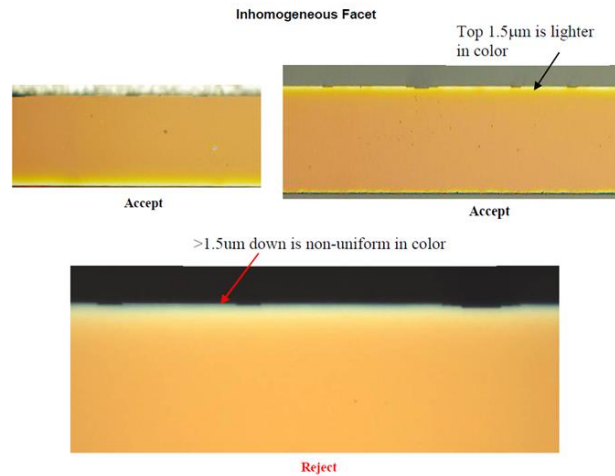

Fig. 3
- Inhomogeneous spot smaller than $1.5\mu\text{m}$ on the facet mirror coating or outside the lasing aperture is considered within specs, as shown in Fig.3.